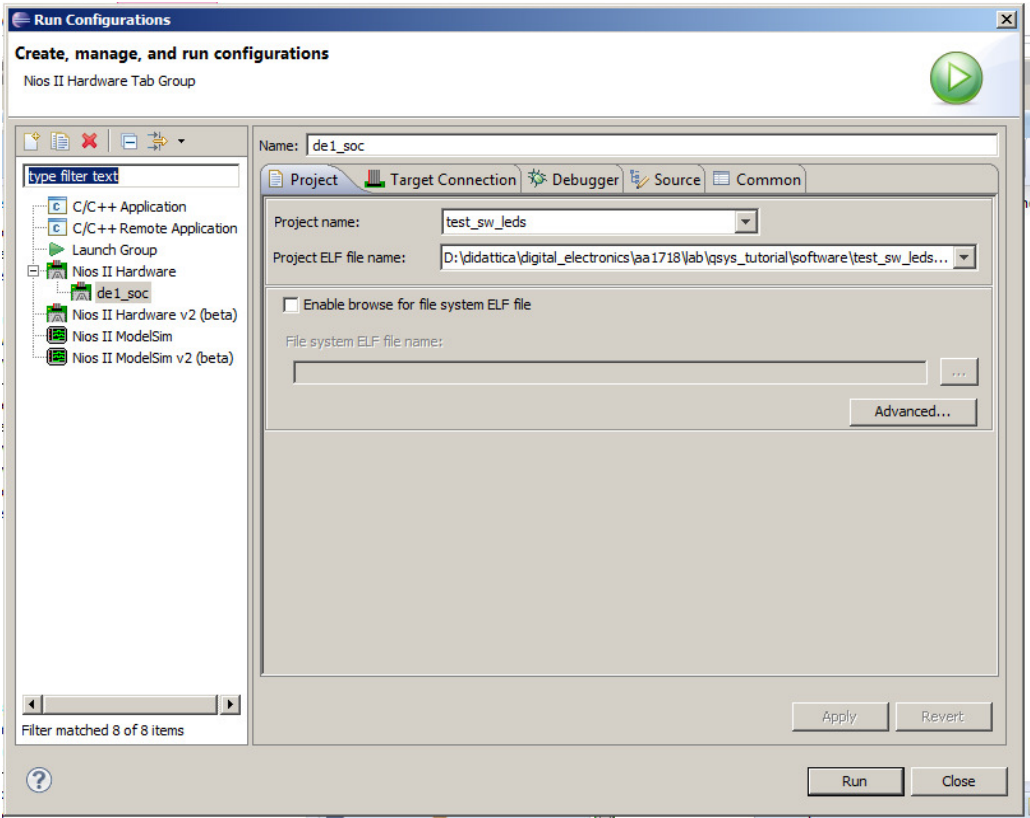

Figure 26 Configuration, Project tab
- In the *Project* tab click on the sliding menu next to *Project name* so that you can choose *test\_sw\_leds*. The *Project ELF file name* will be filled automatically to point to the correct ELF file (see Figure 26).